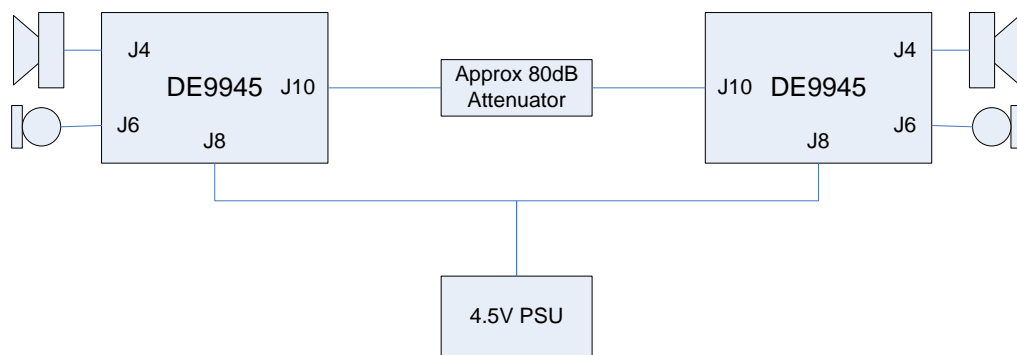

Figure 2 Typical Evaluation Connections for DE9945
1. Connect the boards as shown in Figure 2.